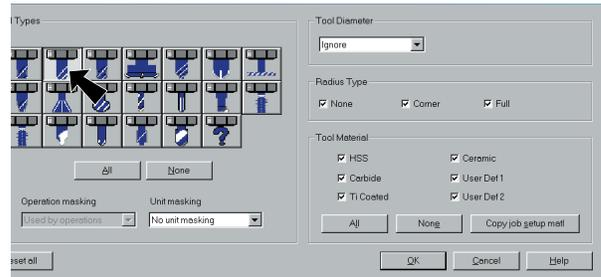

Fig. 3
Step 3. Click None Button, Fig. 3.
Step 4. Click Endmill2 Sphere Button (second button top row), Fig. 3 and click OK.